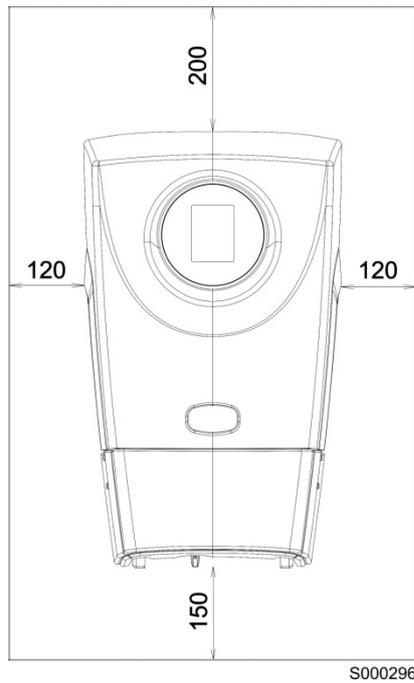

Figure 8: Minimum clearance (in mm) to respect for proper ventilation of the SUNWAY M XS
1. Find an installation site suitable for the inverter, allowing adequate clearance as mentioned in Figure 8. The clearance below allow easy mounting and proper ventilation.